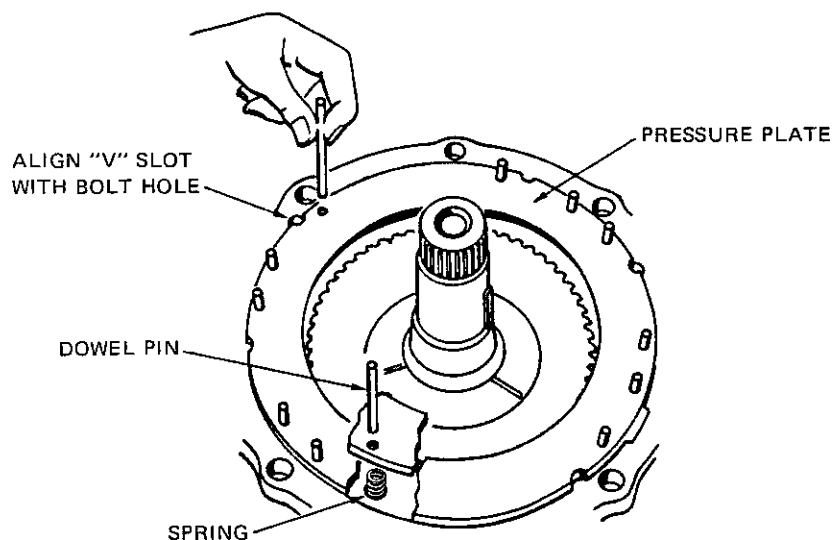

FIG. 9 DOWELS USED TO RETAIN SPRINGS
- 17) Assemble thrust race (60) with flange toward ring gear hub.
- 19) Assemble the thrust washer (69) on front face of ring gear hub.
- 20) Assemble a reverse clutch pressure plate (71) positioned with the "V" notch aligned with the lower left bolt hole at front of case.
- 21) Assemble the three dowel pins (75) in the half moon cut-outs in case reverse clutch bore.
- 22) Assemble an inner reverse clutch plate (73) over ring gear hub splines and alternating with steel outer plates (74) aligned with dowel pins, assemble four inner and three outer plates in the reverse clutch cavity. Place the odd shaped lug of steel plates over the uppermost dowel to permit clearance with spring.
- 23) Install twelve clutch return springs (72) and place a dowel pin inside each spring. Make dowels 3/16 inches in diameter and approximately 2-1/4 inches long. Dowels hold springs during assembly and must fit holes in pressure plate Fig. 9.
- 24) Install the other clutch pressure plate (71) aligning the dowel pins with pressure plate holes and with the cast "V" in pressure plate aligned with lower left bolt hole in case face. Remove the twelve dowel pins after the upper pressure plate is firmly seated against the twelve springs.
- 25) Inspect needle bearing (80) which is located in adapter bore and replace if necessary.
- 26) Assemble reverse clutch sealing ring (76) in reverse clutch piston (77) groove and assemble "O" ring (78) in adapter (83) hub groove. Lubricate and press piston in clutch cylinder bore of adapter.
- 27) Assemble a gasket over snap fit on adapter face. Use petrolatum to hold the gasket in position. Carefully lower the adapter into contact with case face. Assemble the four 3/8-16 X 1-1/4 adapter bolts (84) to retain the adapter to the case.
28) Press a new seal (89) into pump housing (88) until seal is flush with front face of housing.
29) Assemble pump drive key (63) in input shaft groove then assemble the pump drive gear (85) over shaft and key.